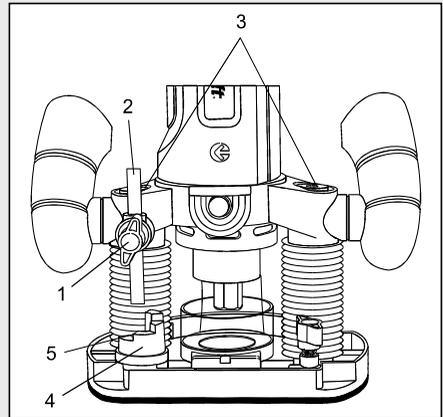

Fig. 18
1. Loosen the depth stop locking knob (1) counter clockwise and raise the depth stop rod (2) to its maximum height and then retighten the locking knob to hold the depth rod in position (Fig. 18).
2. Lift the height adjusting lever upward to allow the upper section of the router base to slide on the plunge rods (3).
3. Rotate the plunge action turret (4) until the one of the stops (5) is under the depth stop rod.